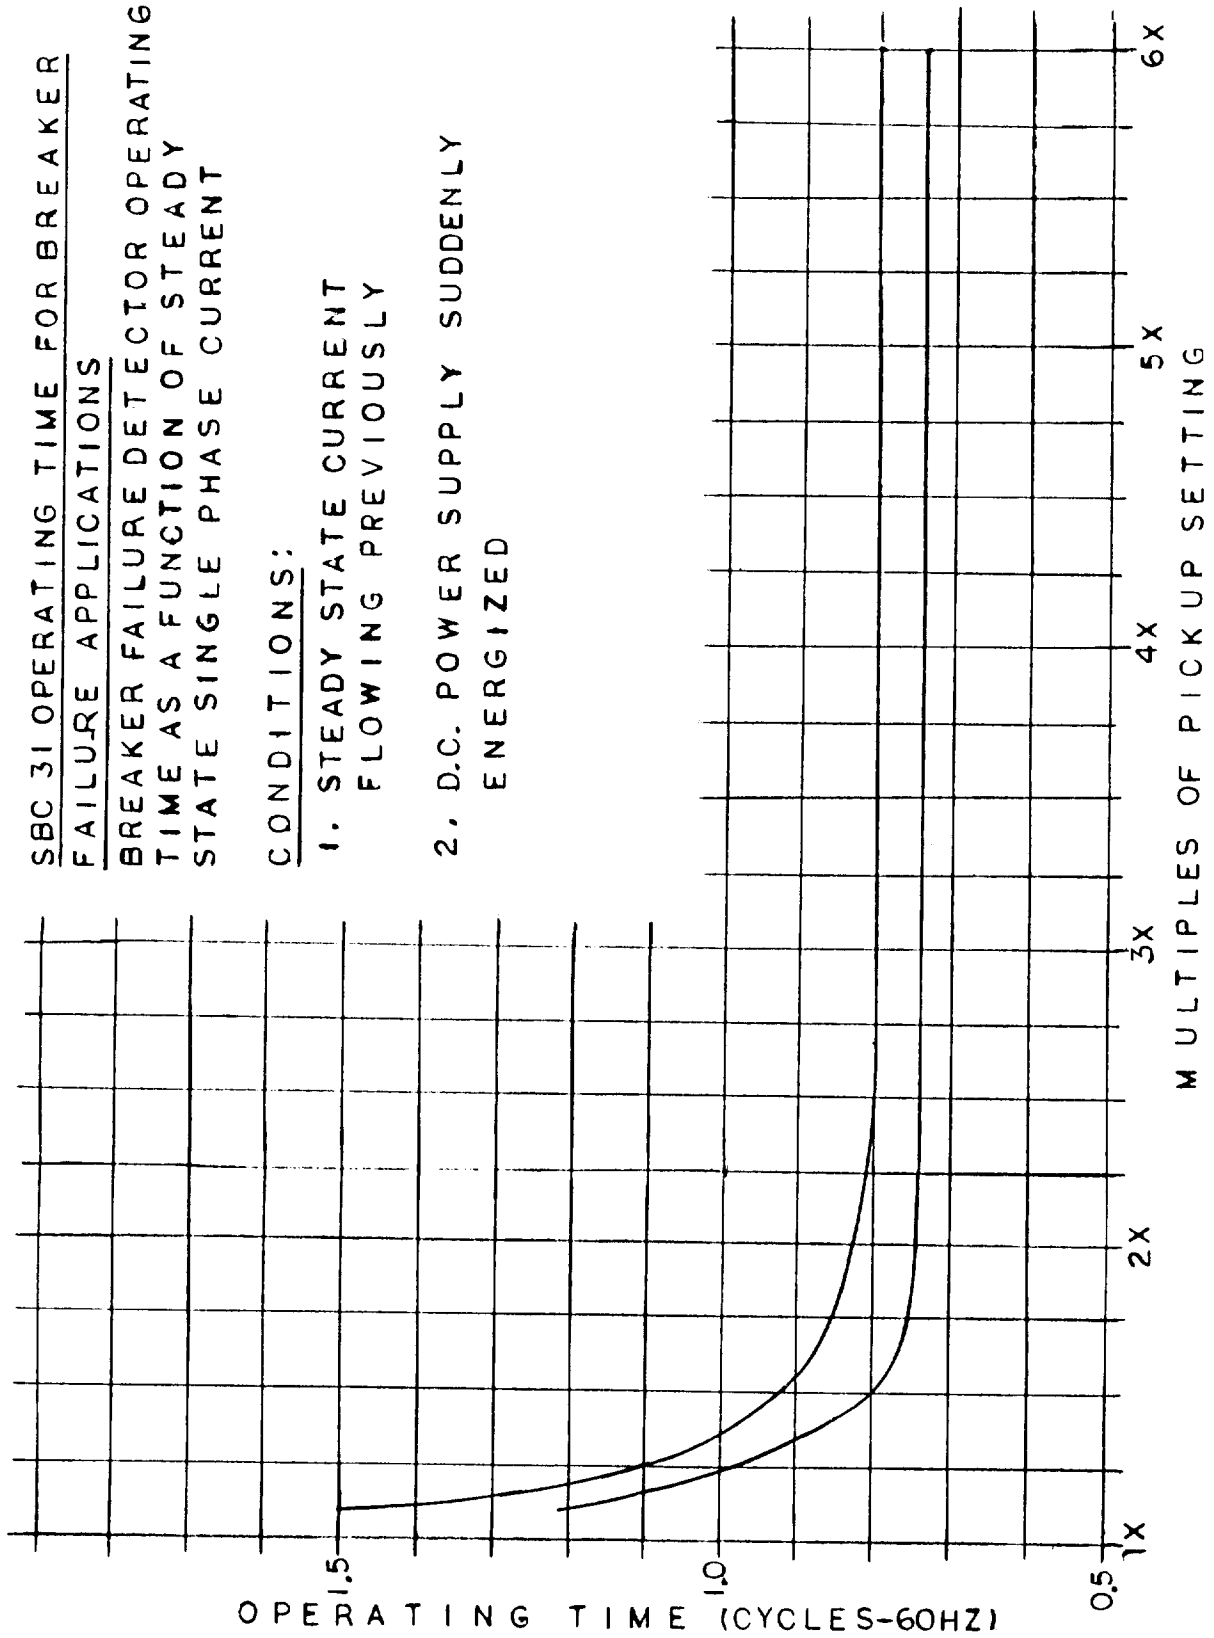

Fig. 9 (0285A6209-0) Operating Time for the SBC31 Relay in Breaker Failure Applications
- Fig. 9 Operating Time for the SBC31 Relay in Breaker Failure Applications